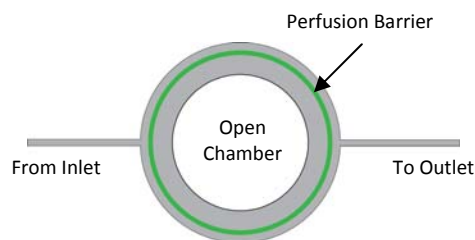
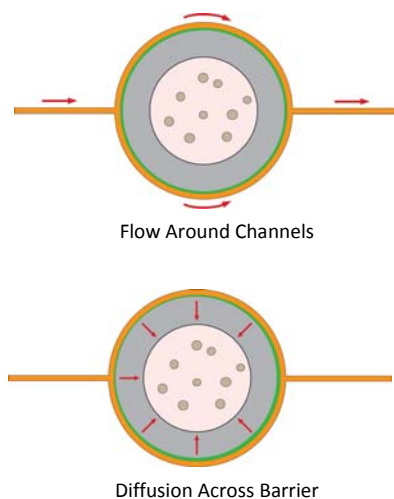

Figure 2. Culture Chamber
Figure 3. Perfusion Flow and Diffusion
14. The array uses gravity driven perfusion to feed the cells. A perfusion barrier (figure 2) surrounds the cell/gel chamber. The 4 μm pores of the barrier allow free diffusion from the flow channels (figure 3). It takes approximately 0.5-1 hour for a new solution to diffuse into the culture chamber during perfusion.